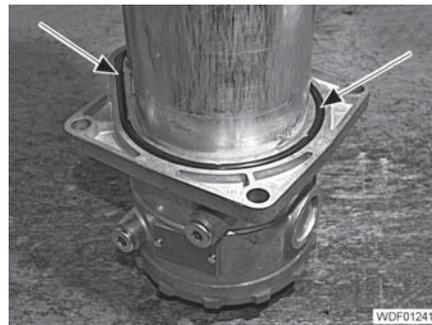

Fig. 225 Sealing
- Apply sealant along the O-ring (Fig. 225).